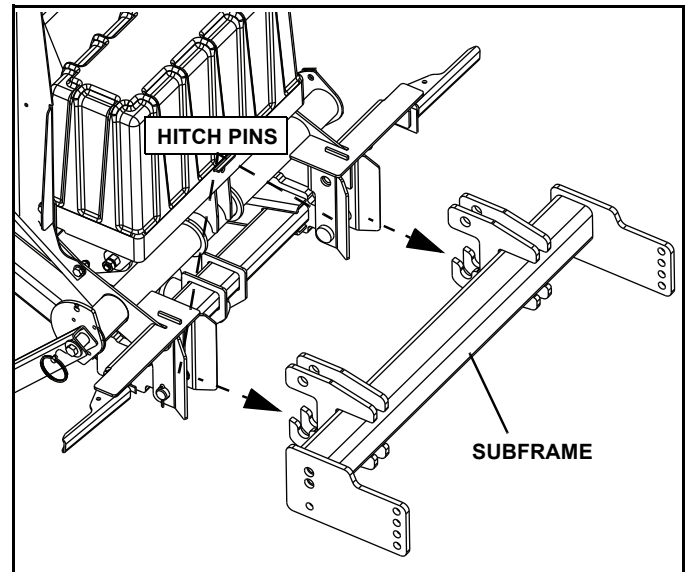

Figure 1-2
4. Set a-frame/tower assembly lower hitch pins into slots on truck subframe. (See Figure 1-2.)